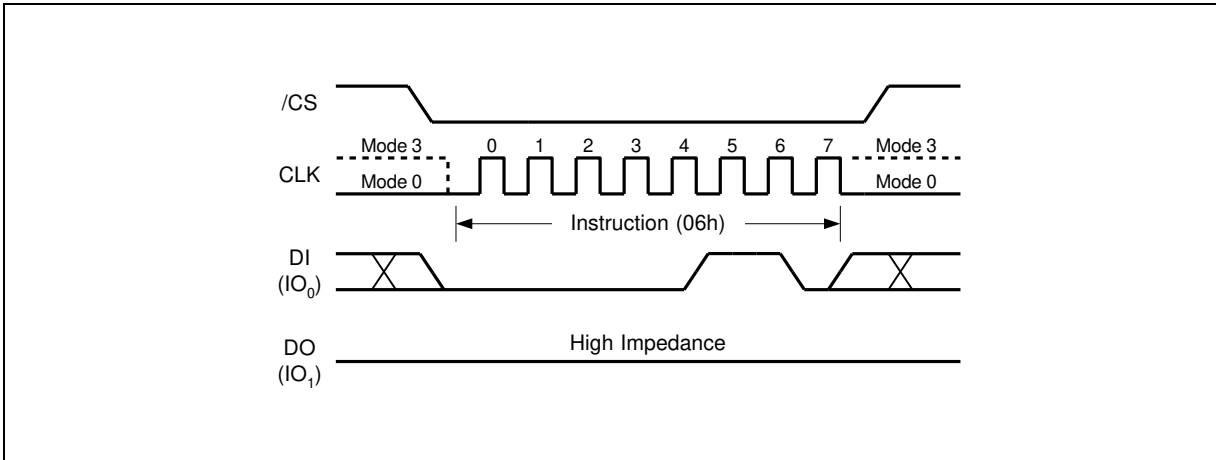

Figure 4. Write Enable Instruction Sequence Diagram
The Write Enable instruction (Figure 4) sets the Write Enable Latch (WEL) bit in the Status Register to a 1. The WEL bit must be set prior to every Page Program, Quad Page Program, Sector Erase, Block Erase, Chip Erase, Write Status Register and Erase/Program Security Registers instruction. The Write Enable instruction is entered by driving  $\overline{\text{CS}}$  low, shifting the instruction code "06h" into the Data Input (DI) pin on the rising edge of CLK, and then driving  $\overline{\text{CS}}$  high.